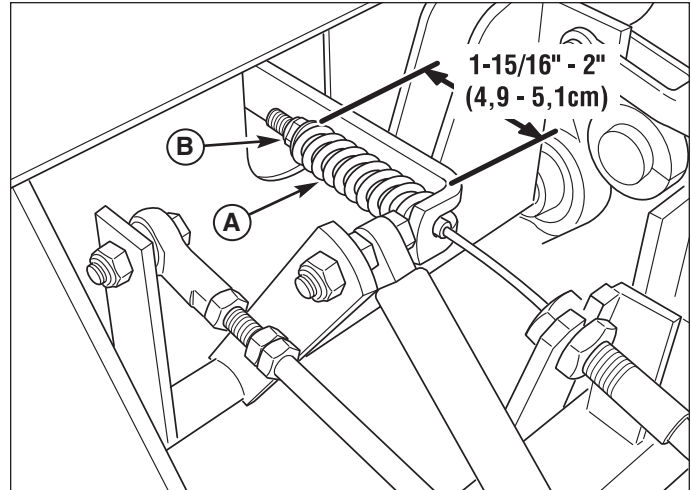

Figure 25. Parking Brake Adjustment
3. Locate the brake spring (A, Figure 25).
5. If the spring is not within this range, release the parking brake and turn the adjustment nut (B) to compress or release the spring.